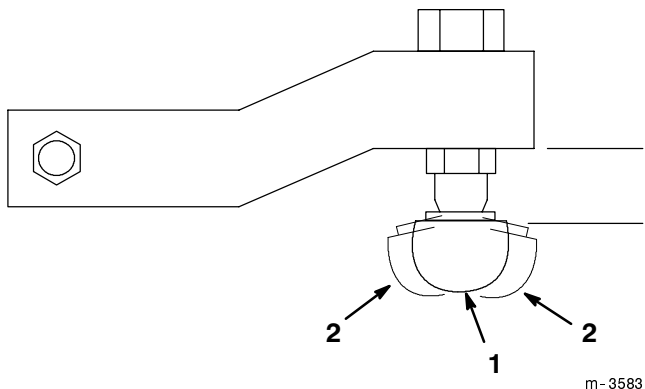

Figure 43
**IMPORTANT: Make sure that the flat surface on the top of the front tie rod ends is parallel to the bottom of the steering arm (Fig. 43).**